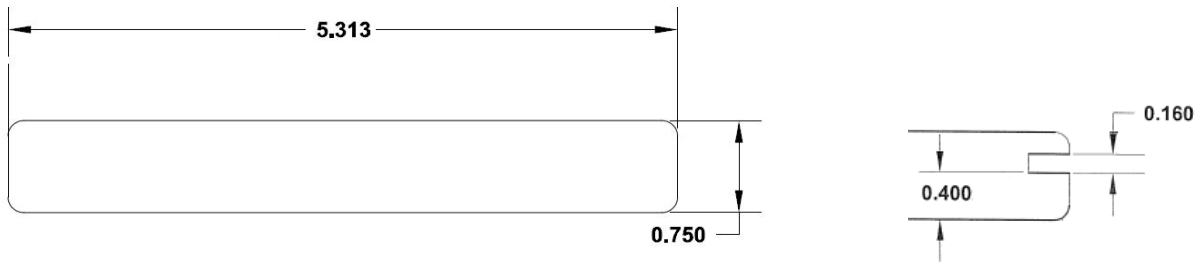

Figure 1 – Eovations™ Deck Board Profile
3.2.1. *Eovations™* deck boards are provided with nominal dimensions of 5.3" wide and 0.75" thick. See Figure 1.